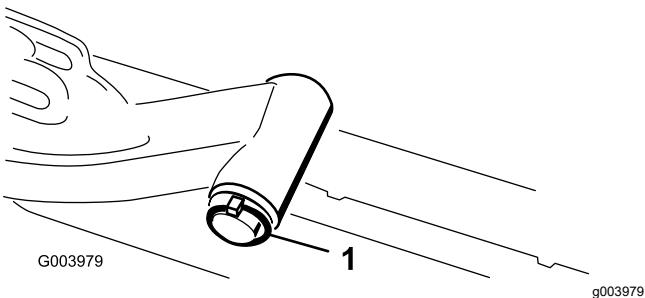

Figure 11
A. Remove the lynch pin and washer securing the lift-arm pivot shaft to the lift arm and slide the lift-arm pivot shaft out of the lift arm (Figure 11).
C. Insert the lift-arm shaft into the lift arm and secure it with the washer and lynch pin (Figure 11).